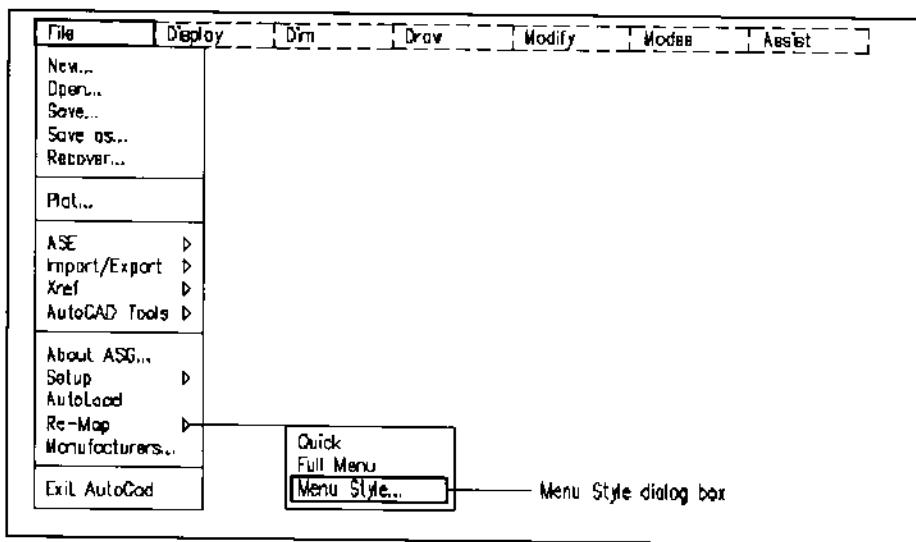
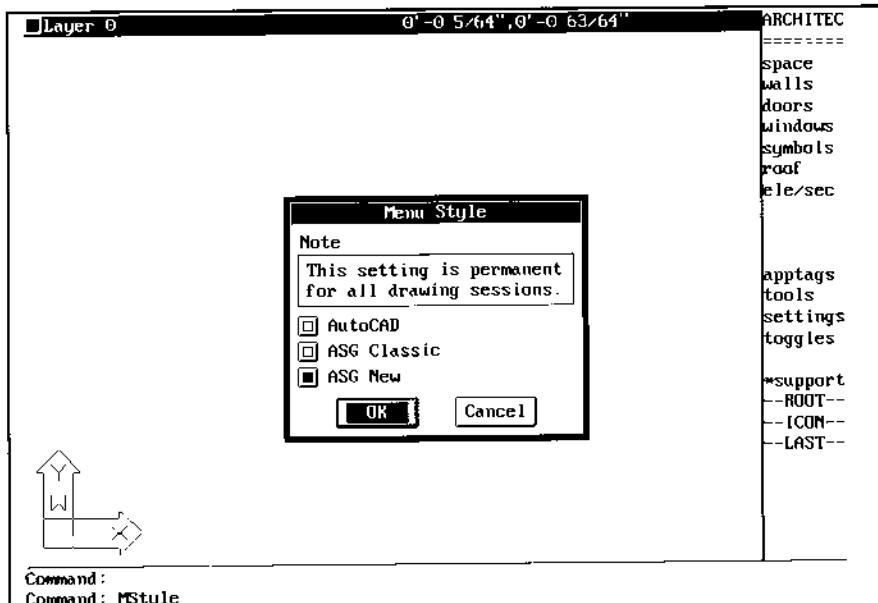

Figure 1.
Figure 2.
1. Display the pull-down cascading menu by moving the cursor up to the menu bar to view the following seven menu bar items: File, Display, Dim, Draw, Modify, Modes, and Assist as shown in Figure 1.
2. Highlight the File menu bar with your pointing device, then pick Re-Map as shown in Figure 1 to display additional commands. Pick Menu Style... to open the Menu Style dialog box. Activate the radio button adjacent to ASG New by picking the rectangular box with your pointing device, then select OK as shown in Figure 2.